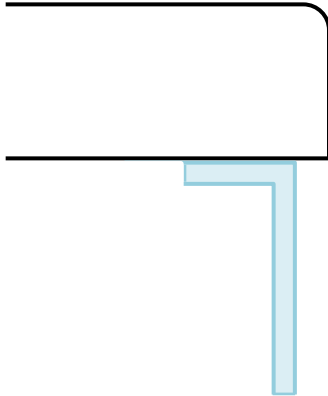

Figure 3. Diagram for Sink Cuts
- Cut a secondary center sink cut 3" inside the finish cut & remove that center piece first, followed by removing the four 3" strips just inside the new sink edge. (See *Figure 3 on next page*)